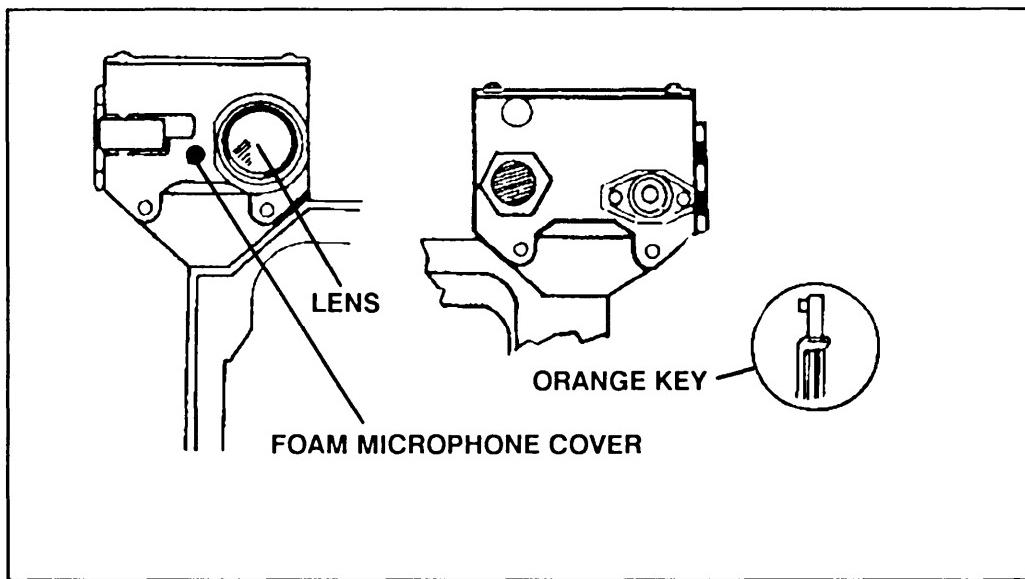

Figure B-3. Inspection of the MILES transmitter.
- Inspecting and Servicing the MILES Transmitter.** Remove any dirt or oil from the lens using lens paper or a soft, dry cloth. Take care not to scratch the lens. Inspect the foam microphone cover; if it is wet or caked with dirt or blank firing residue, clean or replace it. Inspect the transmitter for indications of damage that would prevent normal operations (Figure B-3). Clean all surfaces. Ensure that the orange key is present. Use DA Form 2404 to report any damage to the transmitter.